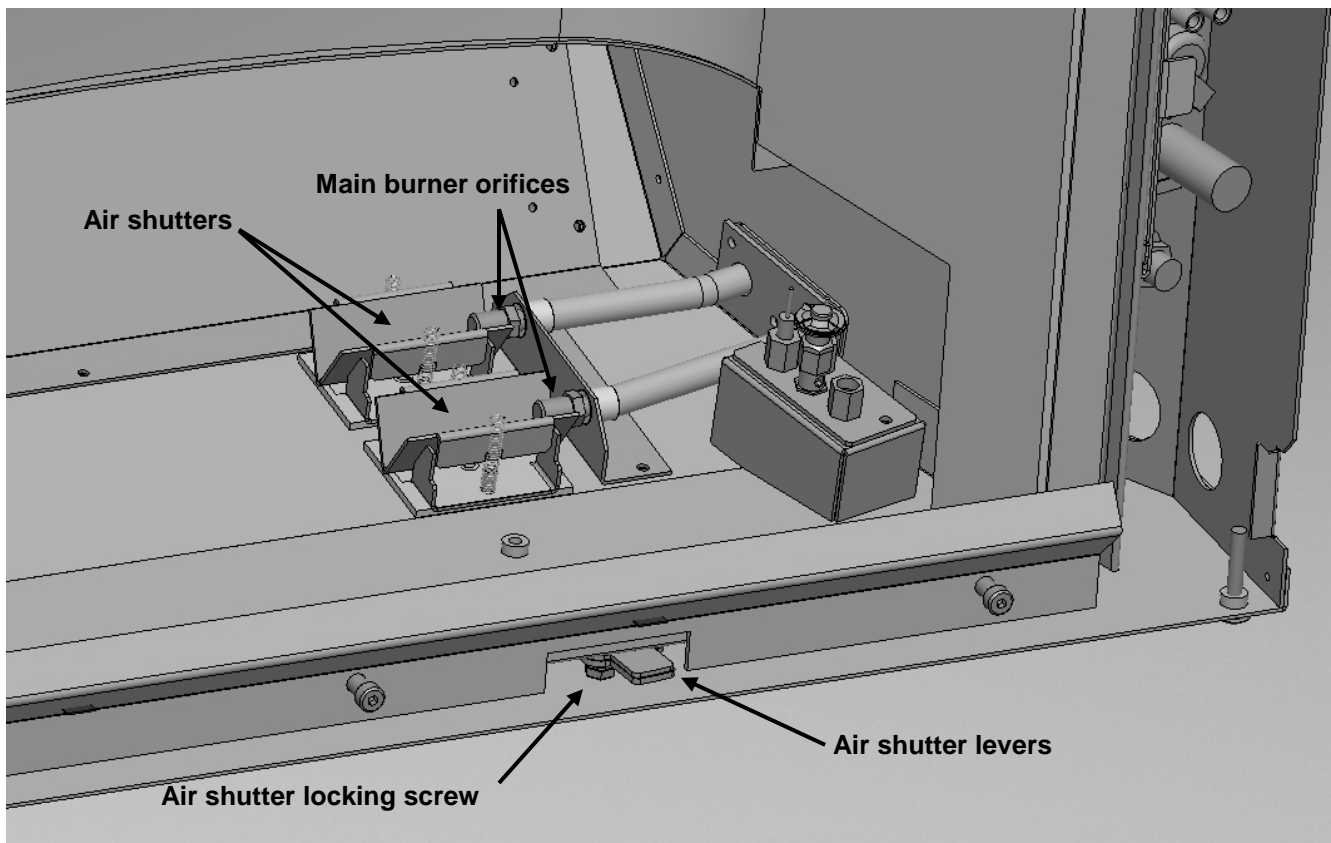

Figure 1
5. Place the two air shutter back in their original cradles. Be sure to carefully align the springs onto the slots on the air shutters. Loosen (but do not remove) the screw that locks the air shutters in place. Adjust the air shutters to a preliminary fully opened position (for LP) by sliding the air shutter levers all the way to the right. Moving the levers to the left will close the air shutters. When the shutters are in the desired initial position tighten the locking nuts finger tight. See *Figure 1* below.